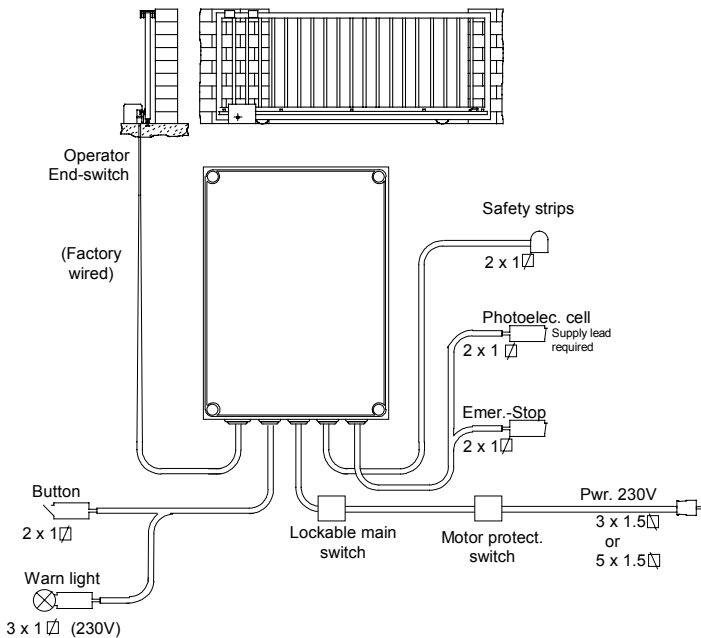

Fig. 14 Installation diagram
1. Lay the cable from the power supply and from possible additional devices to the control unit (see Fig. 14 on page 15).